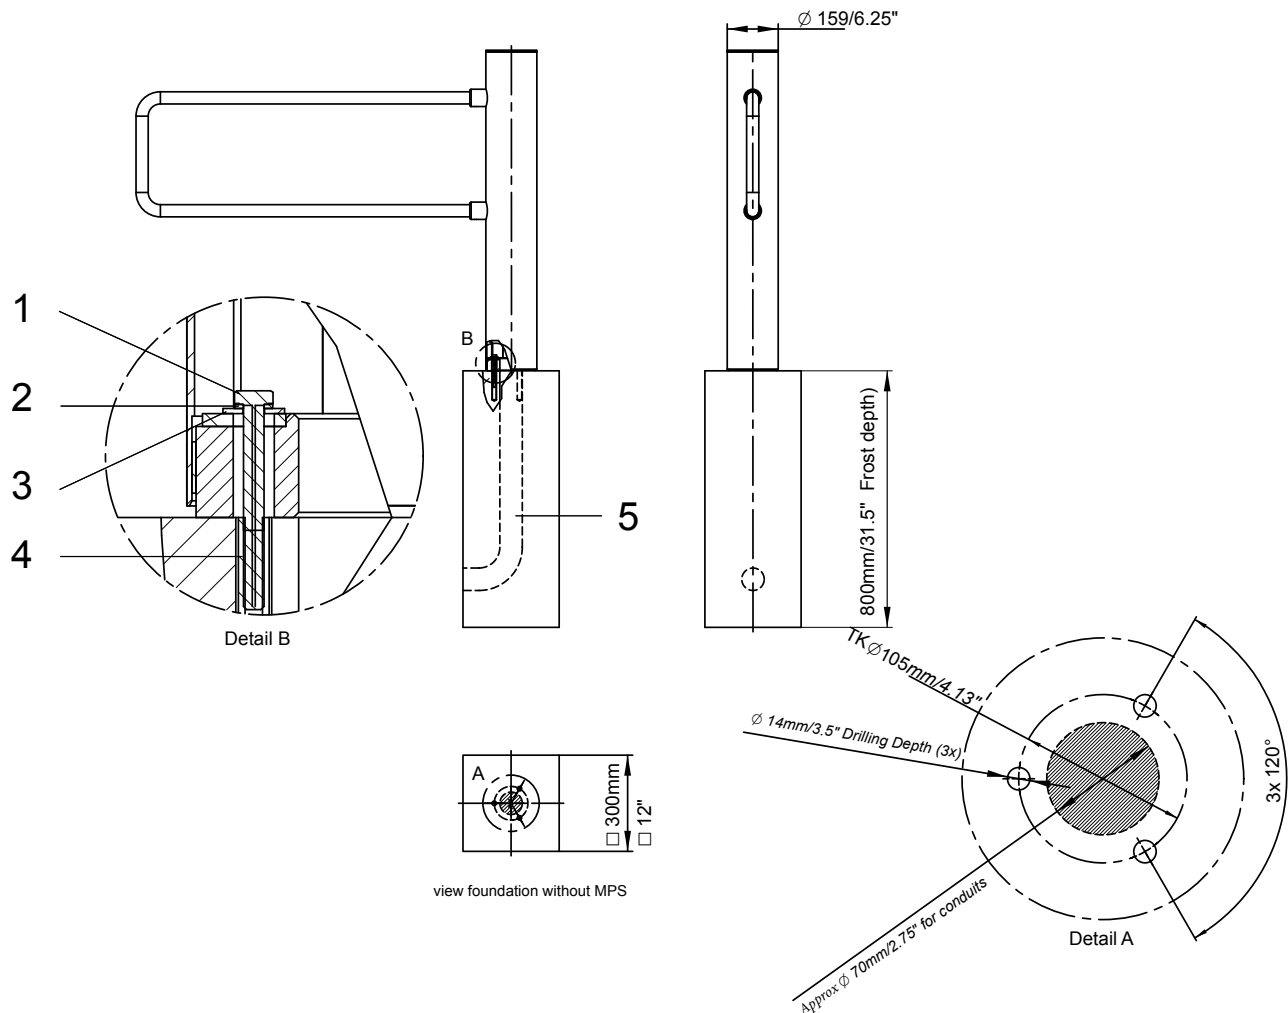

Fig. 6: Foundation plan
The empty conduits must be positioned accurately to the drilling plan. → See page 27, Fig. 6.
1. Place the bores according to the drilling plan. → See page 27, Fig. 6.